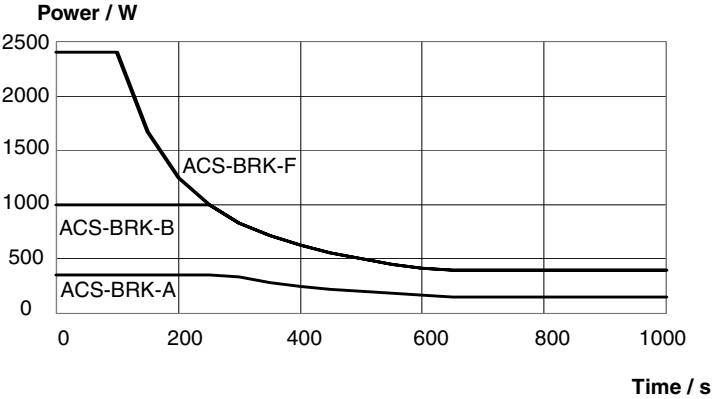
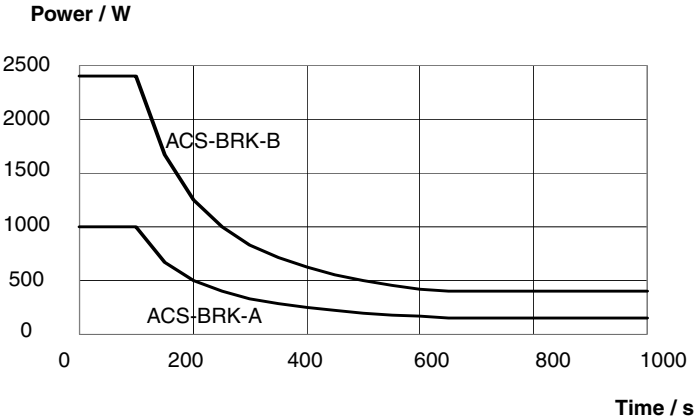

Figure 12 SOAs of the 200 V series converters.
Figure 13 SOAs of the 400 V series converters.
- 3 Choose the brake unit from the following diagram, so that the operating point is within the safe operating area, see Figure 12 and Figure 13.